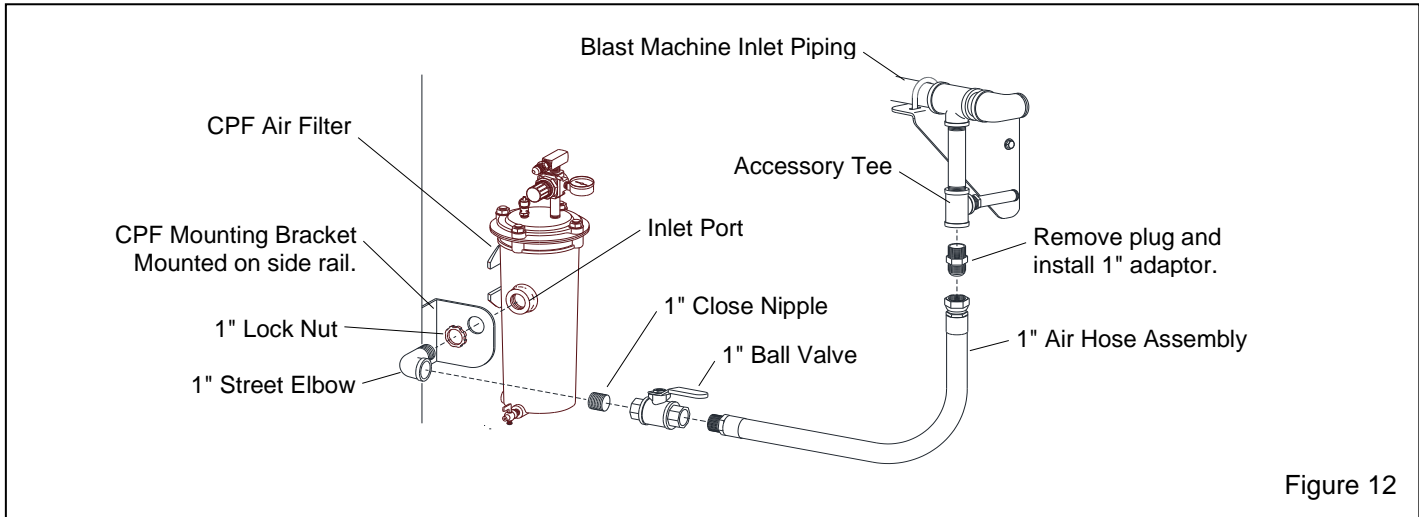

Figure 12
2.5 Breathing-Air Connections, Optional CPF Filter – Figure 12.
2.5.6 Install the close nipple, ball valve and male end of the hose assembly into the elbow, as shown in Figure 12.